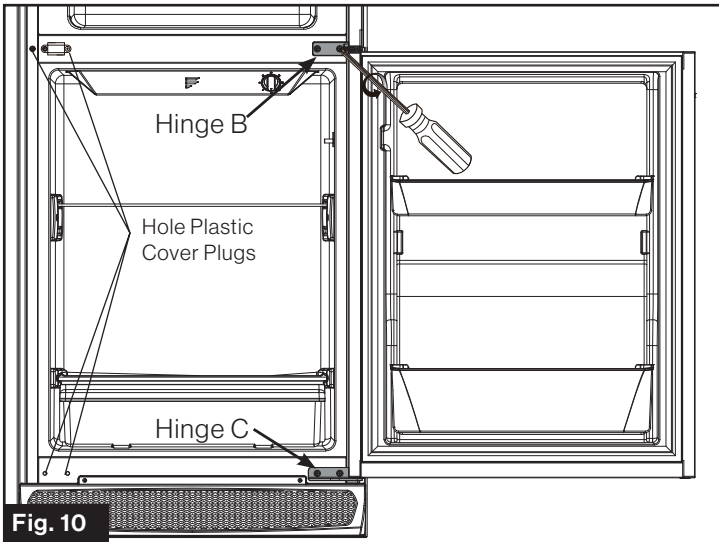

Fig. 10
2. Disassemble the Refrigerator Door by removing the Hinge B and Hinge C fixing screws. (Fig. 10)